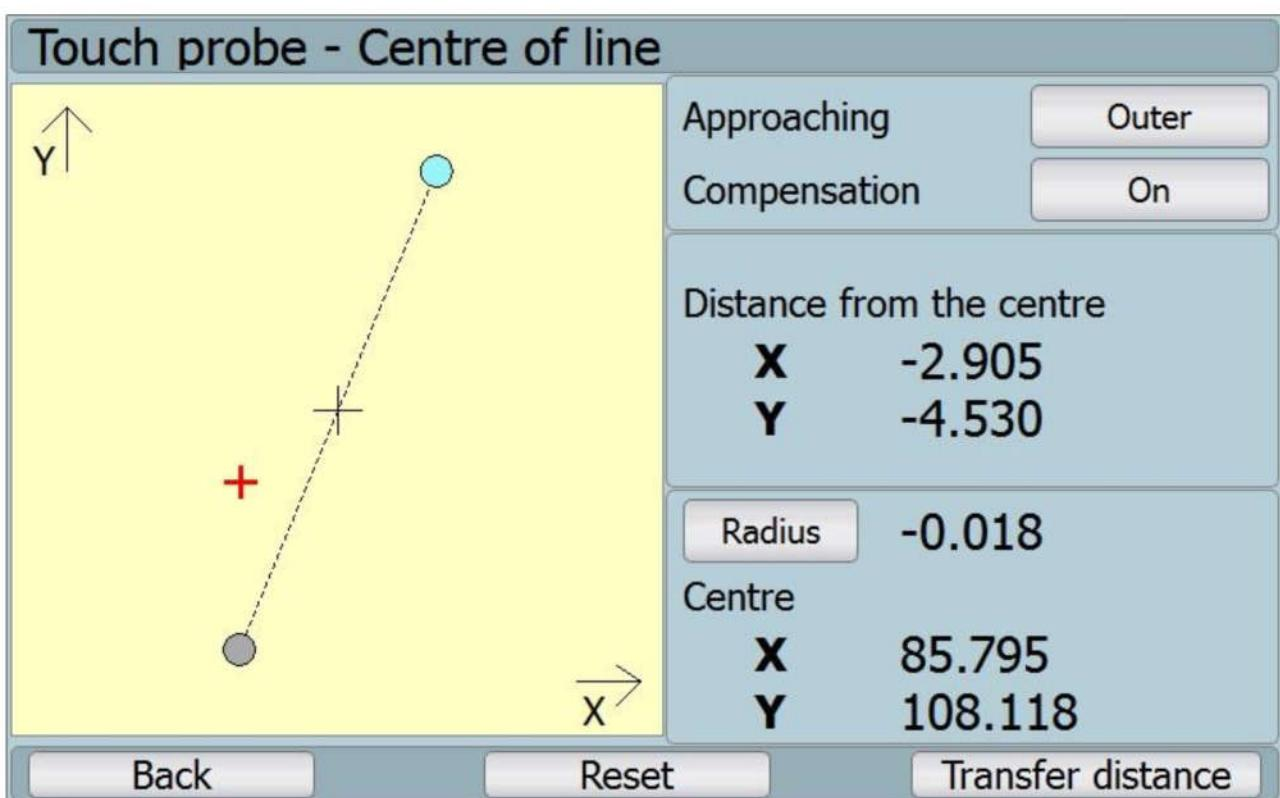

Fig. 45: Touch probe – abscissa centre – found centre
- ⑩ After reaching the second required coordinate with the probe and pressing button for the confirmation, the second point is saved and the found abscissa is drawn with the centre (see fig. 45: Touch probe – abscissa centre – found centre).
- ⑩ It displays the radius (diameter) value of abscissa, the coordinates of the found centre, and it displays data on the line centre distance from the touch probe coordinates.
- ⑩ The diameter value can be switched with buttons „Polomer/Prumer“ (diameter/ radius) for the defined abscissa.
- ⑩ Button „Vnejsi/Vnitri“ (external/ internal) is used for the diameter value treatment according to the way we moved the touch probe on individual line coordinates. They can be from external or internal side.
- ⑩ Button „Zapnuto/Vypnuto“ (on/off) for the compensation edits values of the centre coordinates as per the defined compensation received during the calibration of the touch probe on the circle (see chapter Chyba! Záložka není definována.).
- ⑩ Button „Reset“ sets everything into the initial setting.
- ⑩ Button „Prenest stred“ (transfer centre) transfers the coordinates of the defined axis centre.